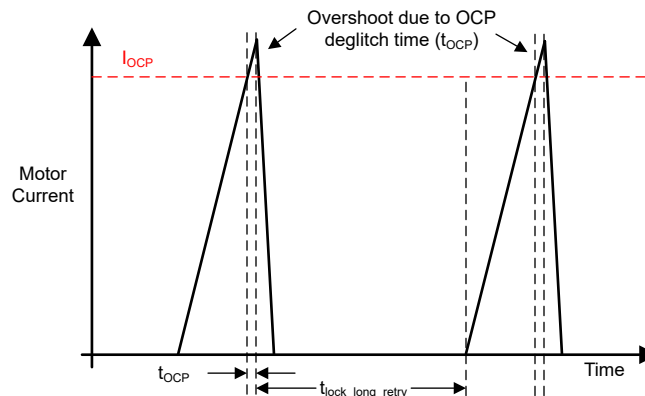

Figure 6-25. OCP Operation
The MC121-Q1 provides an overcurrent protection (OCP) feature to protect the integrated power FETs on the OUTx pins from shorts to the supply (VM), ground, and between the OUTx pins. When the current through a FET stays higher than the OCP threshold (I_{OCP}) for longer than the OCP deglitch time (t_{OCP}) as shown in Figure 6-25, all FETs in the H-bridge are disabled (Hi-Z) and the FG/RD pin indicates the fault according to Table 6-4. The OCP fault recovery is set by OCP_RETRY_MODE.